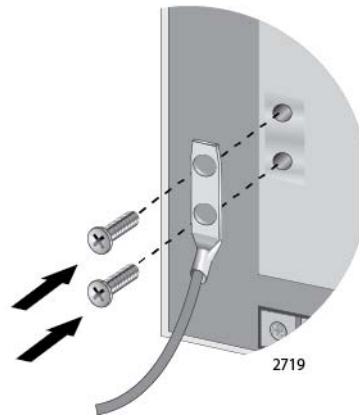

Figure 48. Installing the Grounding Lug and Wire
4. Install the grounding lug on the rear panel of the chassis, as shown in Figure 48.